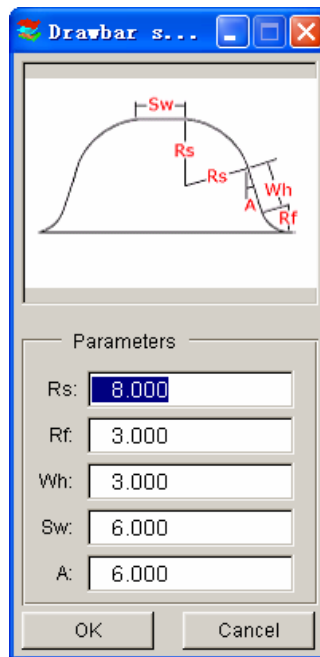
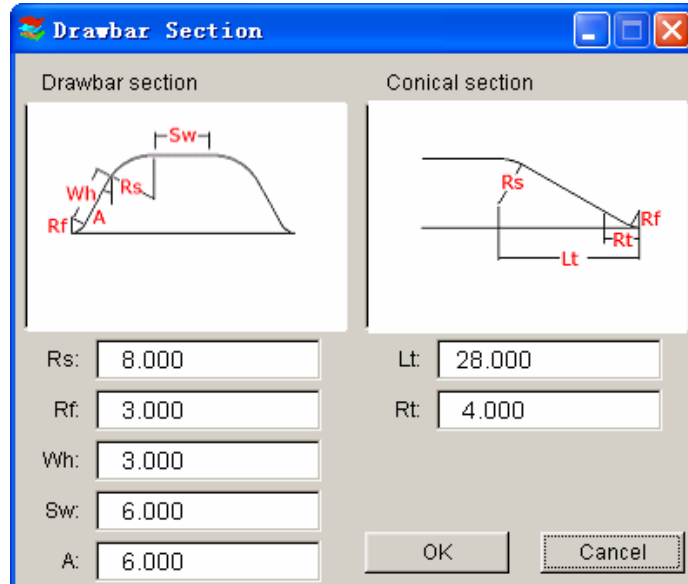
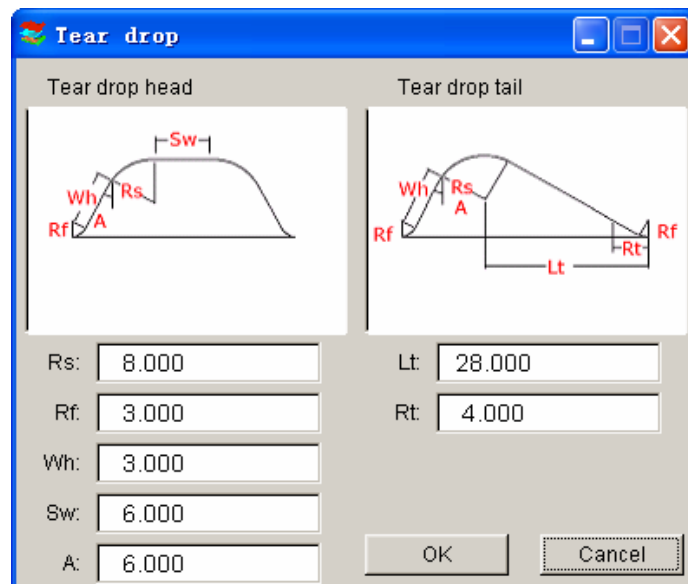

Figure 6.4.8 Parameters for Tear Drop Head
Figure 6.4.9 Parameters for Tear Drop Tail
Figure 6.4.10 Parameters for Tear Drop
1. Draw bar ends with a spherical shape (tear drop head). Figure 6.4.8 shows the control parameters in the dialog window.
2. Draw bar ends with a conical shape (tear drop tail). Figure 6.4.9 shows the parameters in the dialog window.
3. Tear Drop (draw bar without main body). Figure 6.4.10 shows the parameters in the dialog window.
- Click the **PARAMETERS** button, and the program will display the corresponding dialog window as shown in Figure 6.4.8, Figure 6.4.9, or Figure 6.4.10.